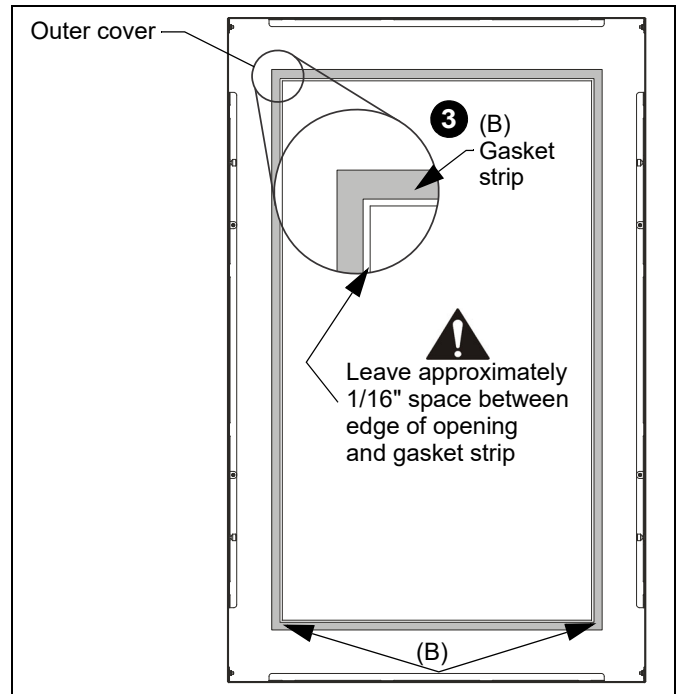

Figure 9
2. Clean the inside edge of the outer cover (approximately one inch depth around entire opening) with an alcohol wipe or something similar, and let dry. (See Figure 9)
3. Install gasket strip (B) around inside edge of outer cover opening. (See Figure 9)